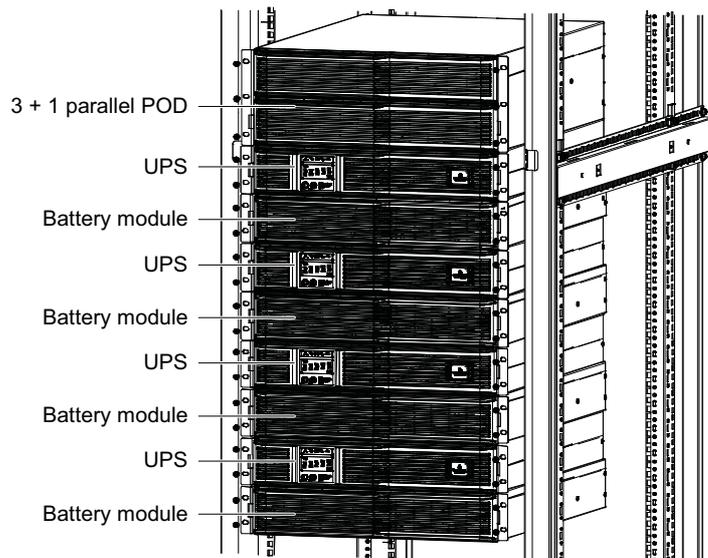

Figure 3-1 3 + 1 parallel system including battery modules installation
2. As shown in Figure 3-1, the battery module should be installed at the bottom; the UPS should be installed in the middle, and the 3 + 1 parallel POD should be installed on the top, so as to facilitate the cable connection and operation.